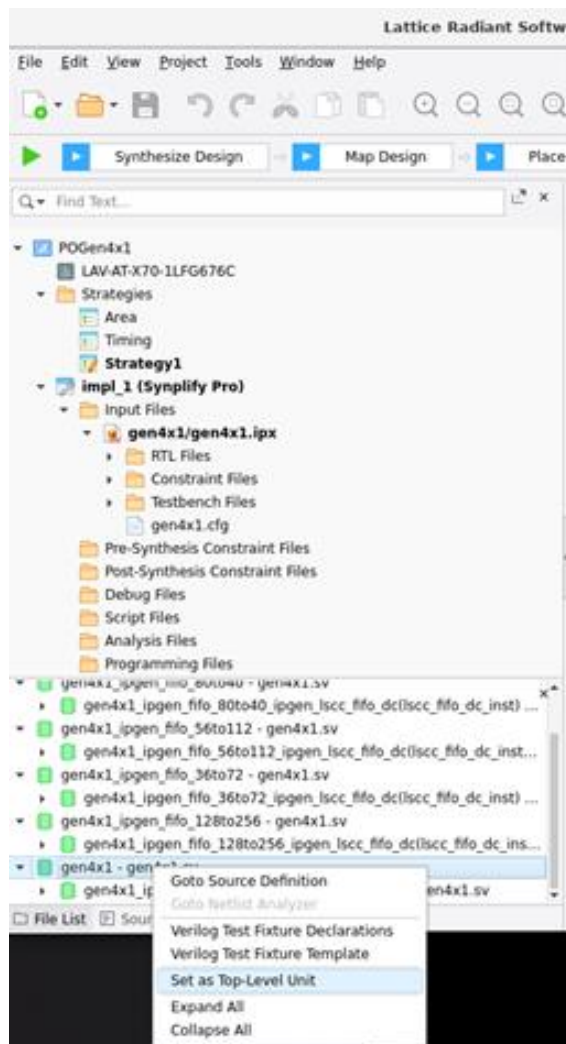

Figure 7.6. Set IP Top Level Unit
6. IP version 2.1.0 or below requires an additional step to set the IP top level. Right click on the IP name and select *Set as Top-Level Unit* shown in Figure 7.6.